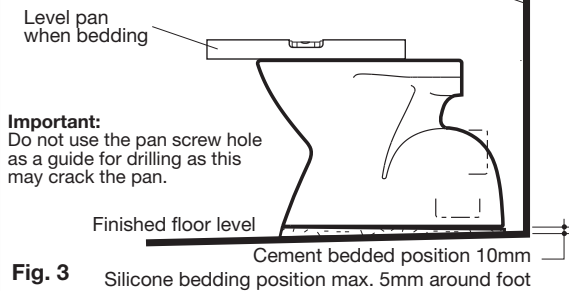

Fig. 3
- 4- Position pan and connect with pan connector and level pan into bedding mixture, so that the back of the foot of the pan is approximately 10mm above the finished floor as detailed in **Fig 3**. It is recommended that wedges are used to support the foot of the pan during the positioning.
- 1- Position pan onto pan connector and mark location of pan fixing holes on the floor, as detailed in **Fig 3**.
- 5- Connect pan to pan connector and fix to the floor with suitable corrosion resistant screws. The acetic cured silicone sealant will bed the pan to the floor. Remove any excess silicone, as detailed in **Fig 3**.